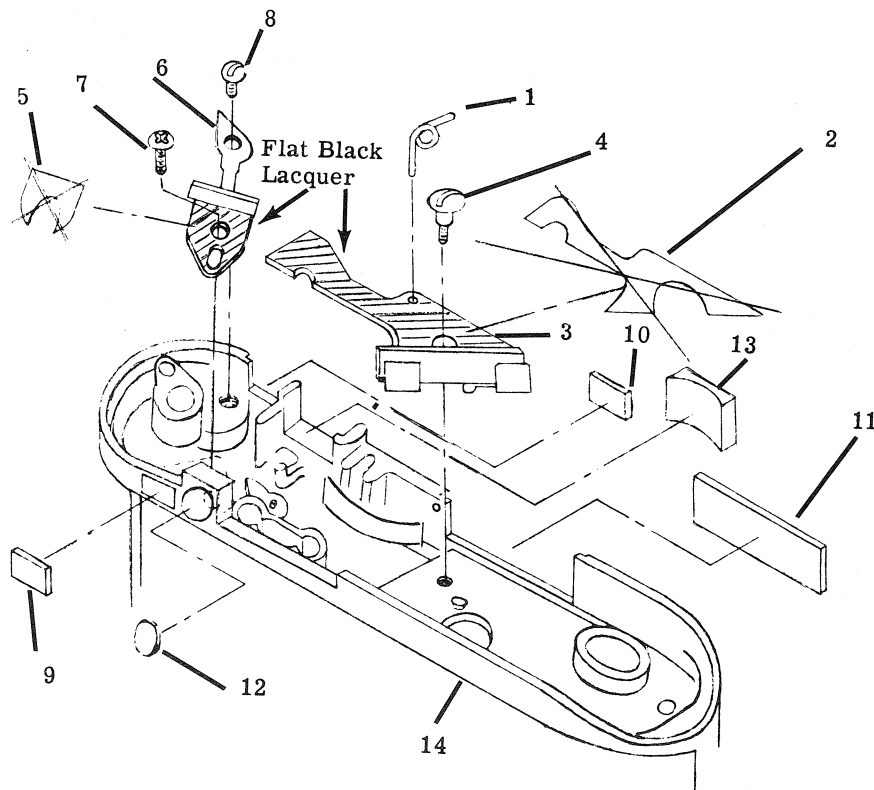

Figure 3. Rangefinder and Viewfinder, Exploded View
## 5.2. Rangefinder and Viewfinder Disassembly (Figure 3).
a. If necessary, remove viewfinder lenses (12 and 13, figure 3) and optical glass (9), (10) and (11).
b. Remove the rangefinder spring (1).
c. Remove screws (4), (7) and (8). Lift the fixed mirror assembly (6) and the triangulating mirror assembly (3) from the body assembly (14).